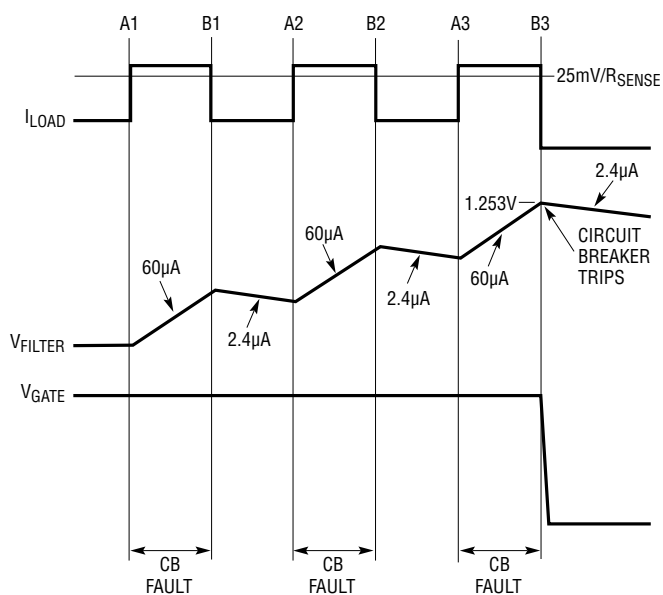
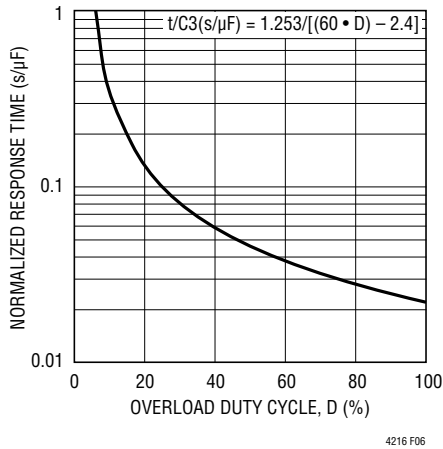

Figure 5. Multiple Intermittent Overcurrent Condition
Figure 6. Circuit Breaker Filter Response for Intermittent Overload
Intermittent overloads may exceed the current limit as in Figure 5, but if the duration is sufficiently short, the FILTER pin voltage may not reach the $V_{FILT(TH)}$ threshold and the device will not shut off. To handle this situation, the FILTER discharges with 2.4 μ A whenever voltage across the sense resistor is below 25mV. Any intermittent overload with an aggregate duty cycle of more than 4% will eventually trip the circuit breaker. Figure 6 shows the circuit breaker response time in seconds normalized to 1 μ F as given by Equation (3). The asymmetric charging and discharging of FILTER is a fair gauge of MOSFET heating.